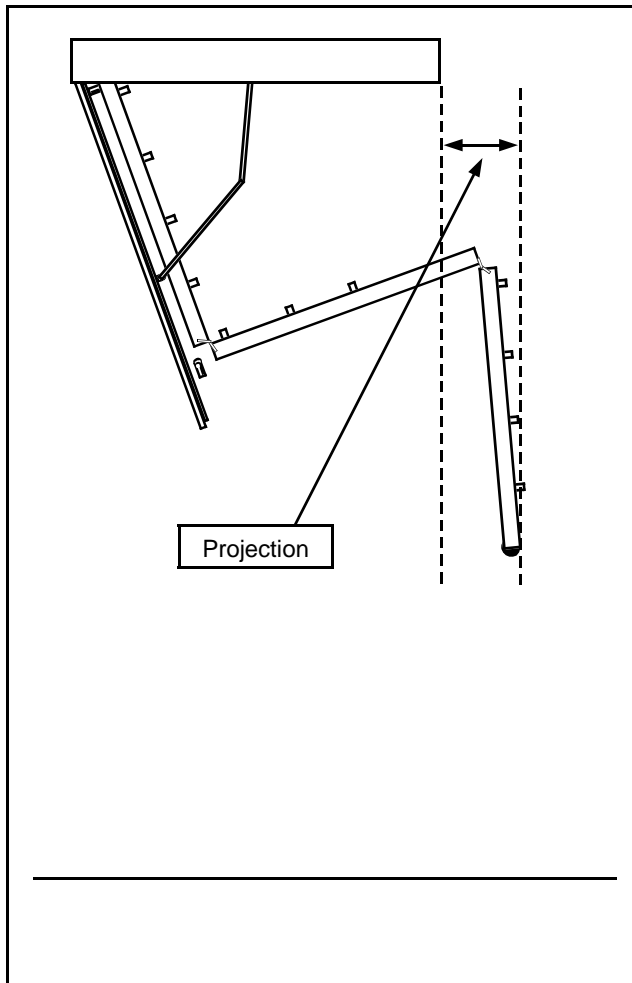

Figure 1
2. Determine whether the chosen location allows sufficient “projection” and “landing space” for your unit. See TABLE A and Figure 1 & 2 below.